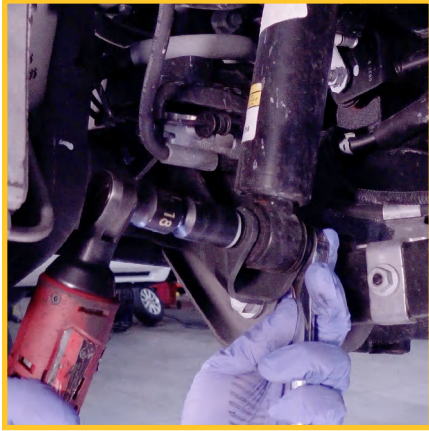

FIGURE 4
3. Remove front shocks. (FIGURES 4, 5, 6)